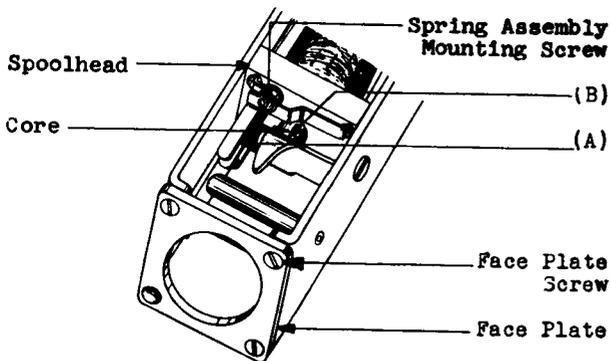

Fig. 4 - Armature Airgap
Fig. 4(A) - With the armature unoperated, the flexible contact spring shall rest on the stop spring, at least at the end of the stop spring that is nearest the contact.
2.09 Contact Follow: Fig. 4(A) - With the armature operated, there shall be a perceptible clearance between the upper flexible contact spring and its stop spring, at least at the end of the stop spring that is nearest the contact.
2.10 Armature Airgap: Fig. 4(B) - The armature shall not touch the face of the core as the relay operates electrically.